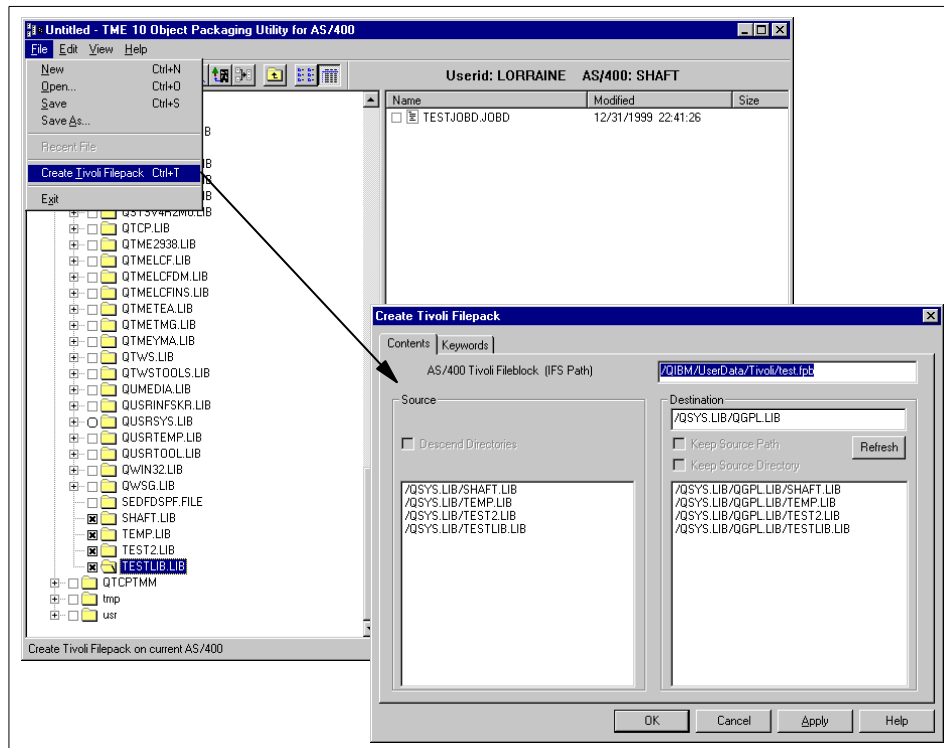

Figure 258. Create Tivoli Filepack dialog
5. After you select the files that you want to create file package block with, select the **File -> Create File Pack** menu from the Object Packaging Utility menu bar. The **Create Tivoli Filepack** dialog box that shows the files you have selected will be displayed as shown in Figure 258 on page 419.